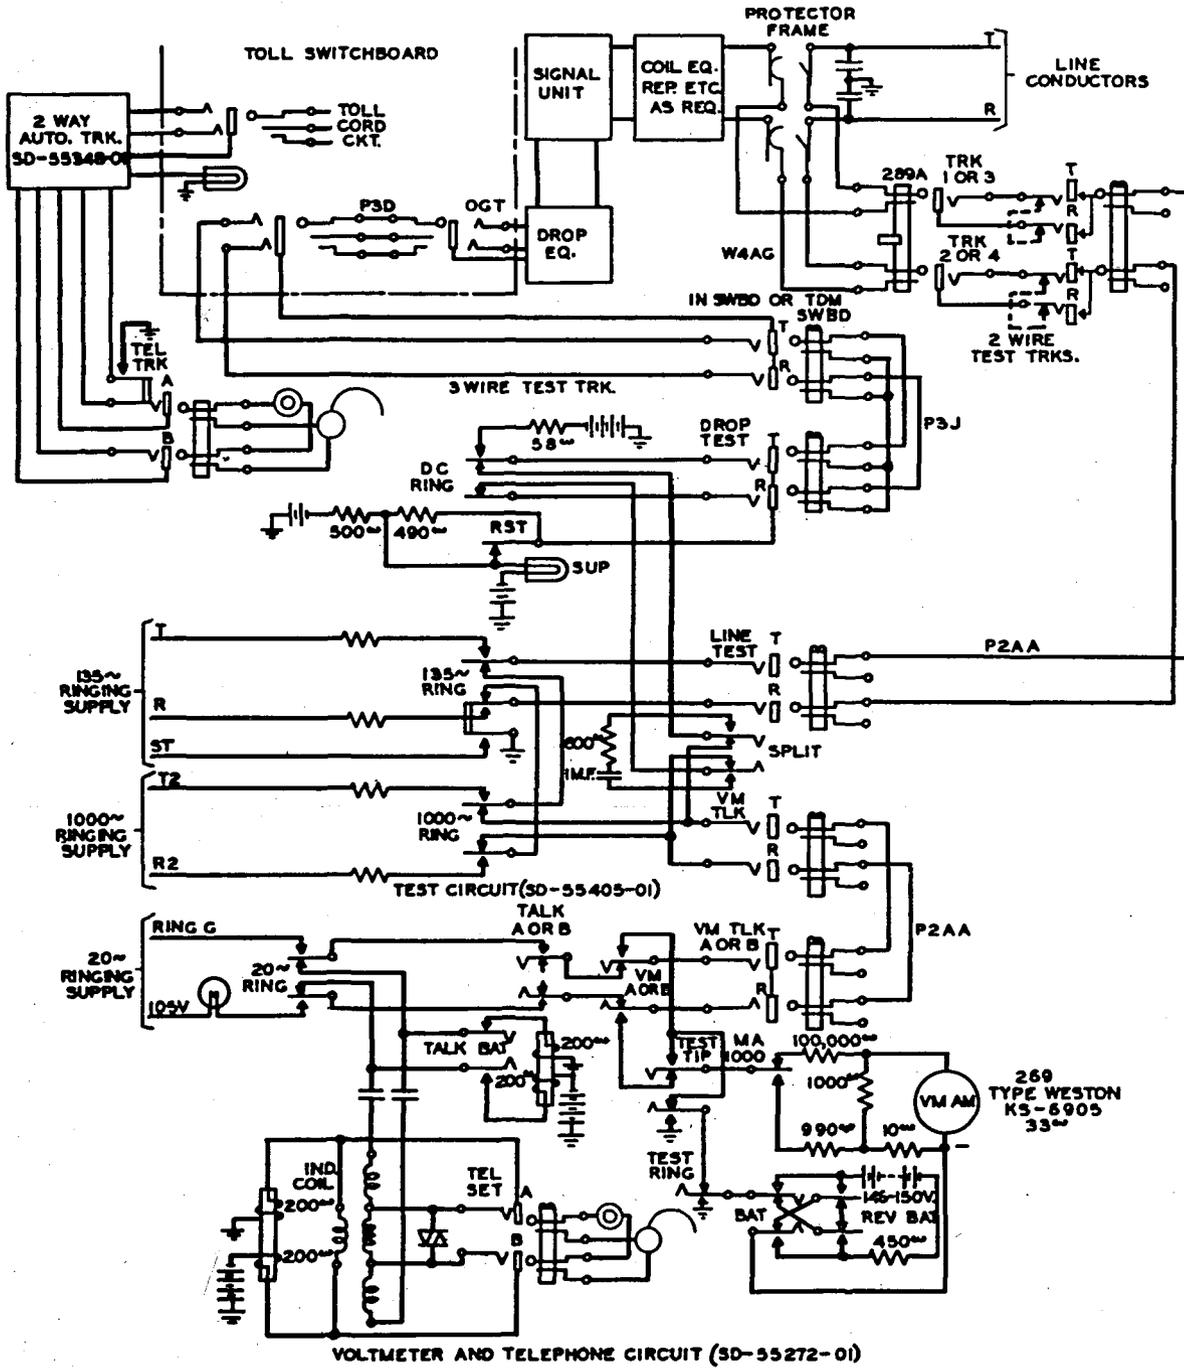

Fig. 1 - Toll Test Panel J61547W and Connections
telephone set to the A and B jacks of the two-way automatic trunk. (See Figs. 1 and 2)
3.10 To provide testing access to the line conductors of an intertoll trunk, proceed as follows: (See Figs. 1, 2 and 3)